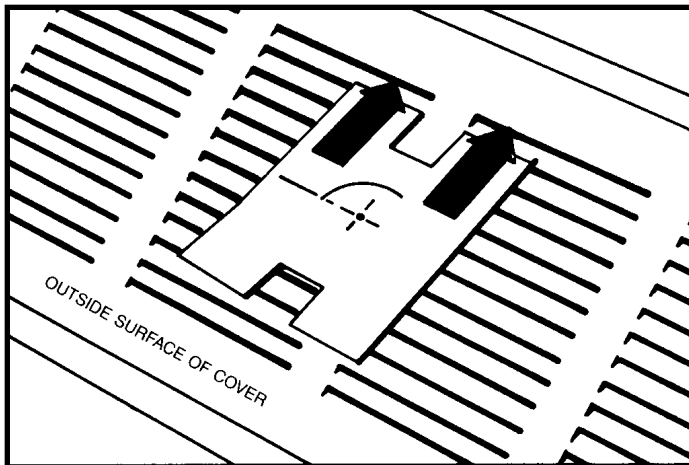
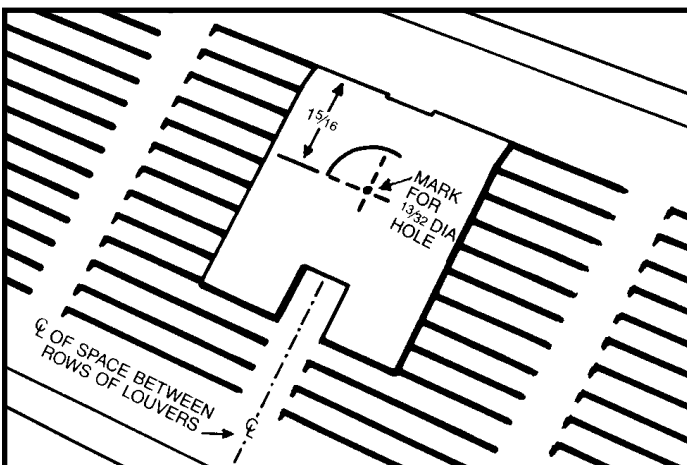

FIGURE 1
FIGURE 2
1. Locate the space between the two centermost\* louver rows on the cover (see Table 1). As a check, this space is approximately equal in distance from the two ends of the cover. The hole must be made EXACTLY in the center of this SMALL SPACE between the two centermost rows of louvers. Find this location using the template supplied or from dimensions given on template and Figure 1.
2. **USE OF HOLE TEMPLATE** Center the template over the two centermost rows of louvers on the side of the cover facing the room. Slide two of the template legs into the uppermost louver openings as shown in Figure 1. The other two template legs should be placed over the two rows of louvers so that only the metal space between these two rows is visible through the slot between the two legs of the template. This is to assure that the template is squared off and so that the mark made on the cover through the hole in the template (A) will be centered between the two rows of louvers. Mark with pencil or scribe (Figure 2).